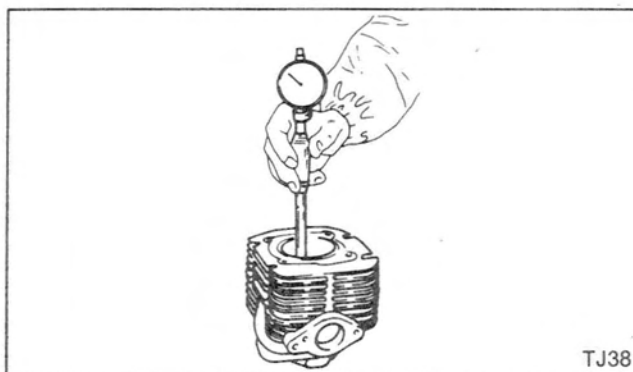

Figure 38
1. When the cylinder and piston are removed, there are several checks which should be performed. First of all the cylinder bore should be checked for wear or scoring each time it is removed. The "out of round" and "taper" can be checked with an inside micrometer. The "out of round" of the cylinder bore is checked by moving the micrometer in a circular direction 90° at a time. The difference in measurements should not exceed 0.04 in. (0.10 mm.). (Figure 38)